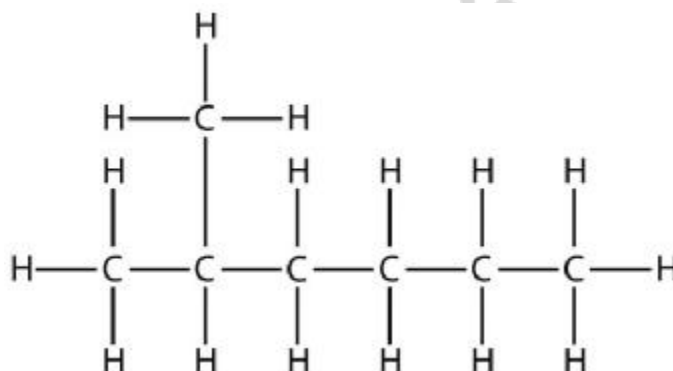

Figure 1.4. Structural formula of 2-methylhexane
1. The longest continuous chain of C atoms should be identified. Note that the longest chain may not be drawn in a straight line. The longest chain determines the final name of the hydrocarbon. For example, in the molecule from figure 1.4 the longest chain of carbons has six C atoms. Therefore, it will be named as a **hexane**.